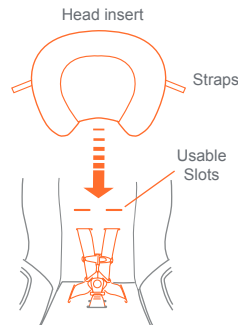

Fig. 62-1
- 1- **Head Insert:** **ONLY** use this insert with children who weigh between 4-18 lbs. Use is not mandatory. Hook and loop the straps through the harness slot above the shoulder straps (Fig. 62-1).